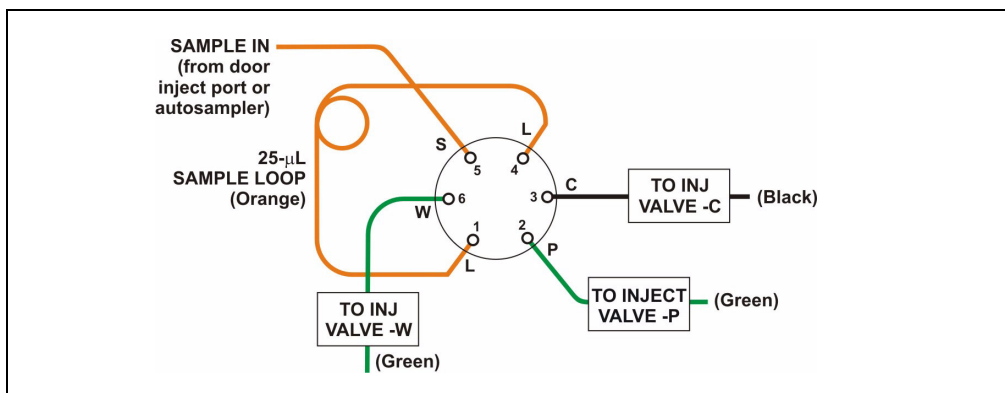

Figure 3-9. Injection Valve Connections
1. Make sure the injection port on the ICS-1000 front door (see Figure 2-1) is connected to the sample port **S** (5) on the injection valve (see Figure 3-9).
1. Disconnect the waste line from port **W (6)** of the injection valve (see Figure 3-9) and attach a shorter line: 25 to 30 cm (10 to 12 inches) of PEEK or Teflon® tubing.